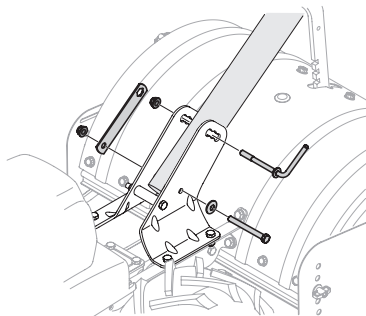

Figure 1
3. Install the handle-crank adjustment rod into the top hole of the mounting bracket from the left hand side of the handle assembly, secure with the other flange lock nut previously removed. Fit the hex end of the retainer bracket over the flange lock nut. See Figure 1.